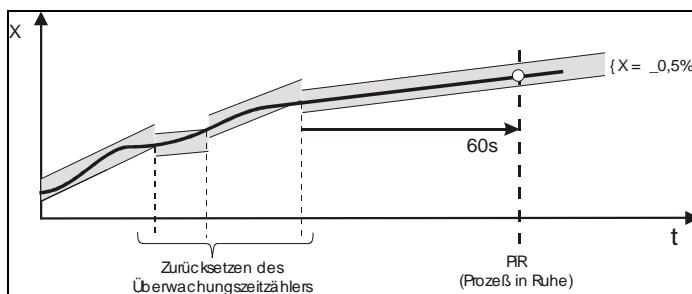

Fig. 72: "process at rest" monitoring
*The graphics in this chapter (e.g. "Fig. 72: "process at rest" monitoring") use deviating variable designations. X is used instead of "PV", and "Y" is used instead of "AV".*